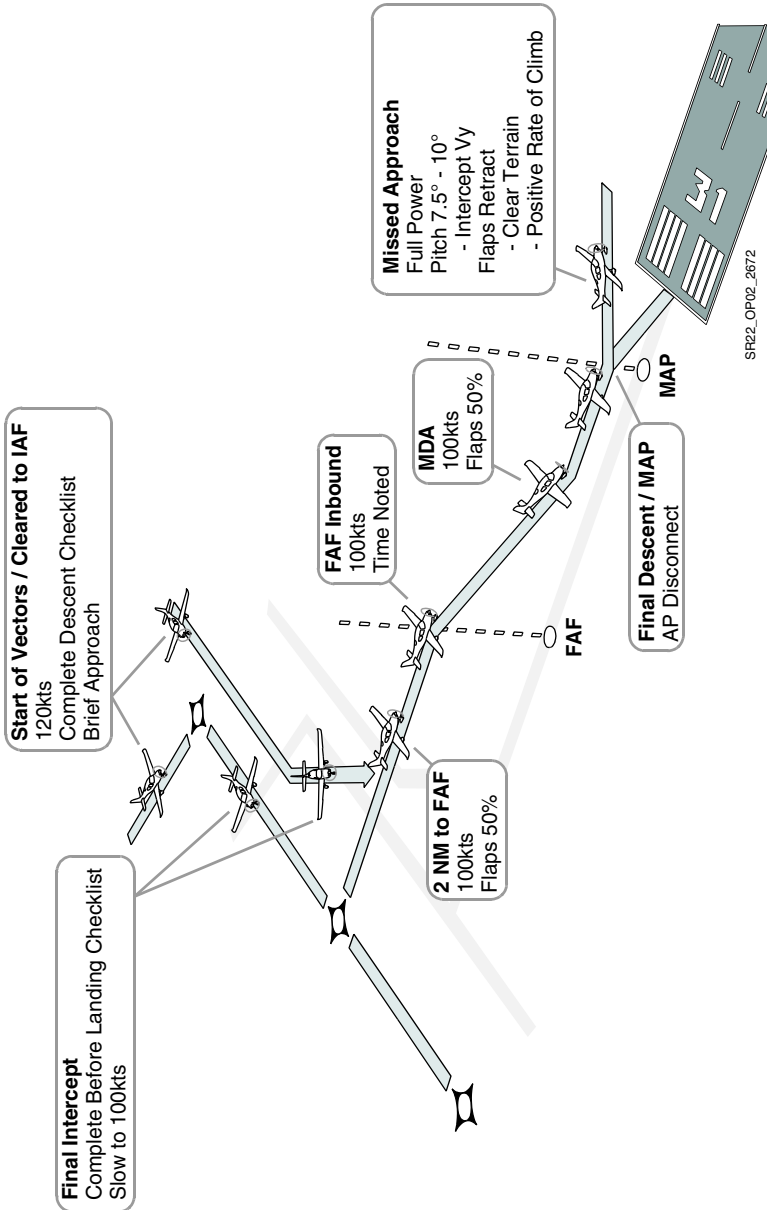

Figure 3-5
**GPS Approach Procedures (See Figure 3-5)**